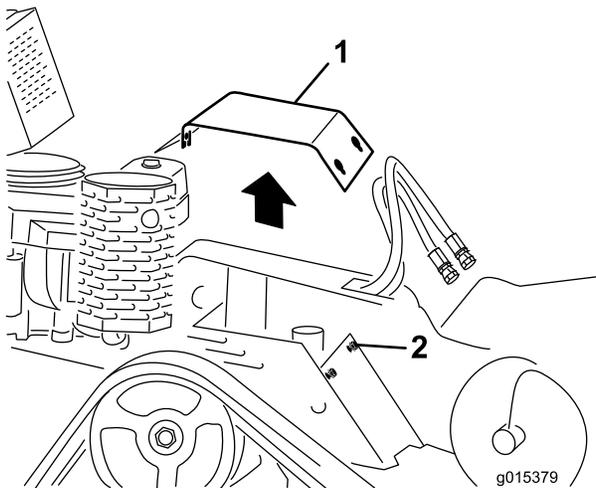

Figure 25
3. Loosen the 3 bolts securing the cover plate to the frame sequentially until the cover is loose (Figure 25).
2. Slide the cover plate into place and secure it with the 3 bolts you loosened previously (Figure 25).